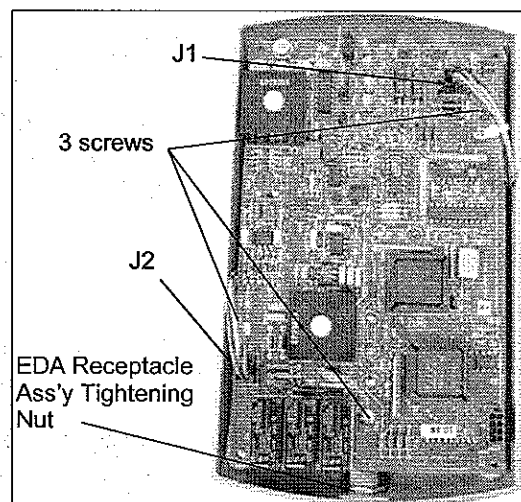

Figure 5-23b: EDA PCB
3. Remove the two connectors at J1 and J2 from the EDA PCB (see Figure 5-23b).
4. Use the Phillips screwdriver to remove the three screws and lock washers securing the EDA PCB to the Rear Enclosure (see Figure 5-23b). Remove the EDA PCB.
1. Place the EDA PCB inside its Rear Enclosure and secure with three Phillips screws and lock washers (see Figure 5-23b).
2. Connect the EDA Receptacle Assembly to J1 on the EDA PCB (see Figure 5-23b).
3. Connect the EDA PCB to Power/Comm. Connector Harness to J2 on the EDA PCB (see Figure 5-23b).
4. Use the adjustable wrench to loosen the nut and remove the EDA Receptacle Assembly (see Figure 5-23b).
1. Install the EDA Receptacle Assembly and nut. Tighten using the adjustable wrench (see Figure 5-23b).